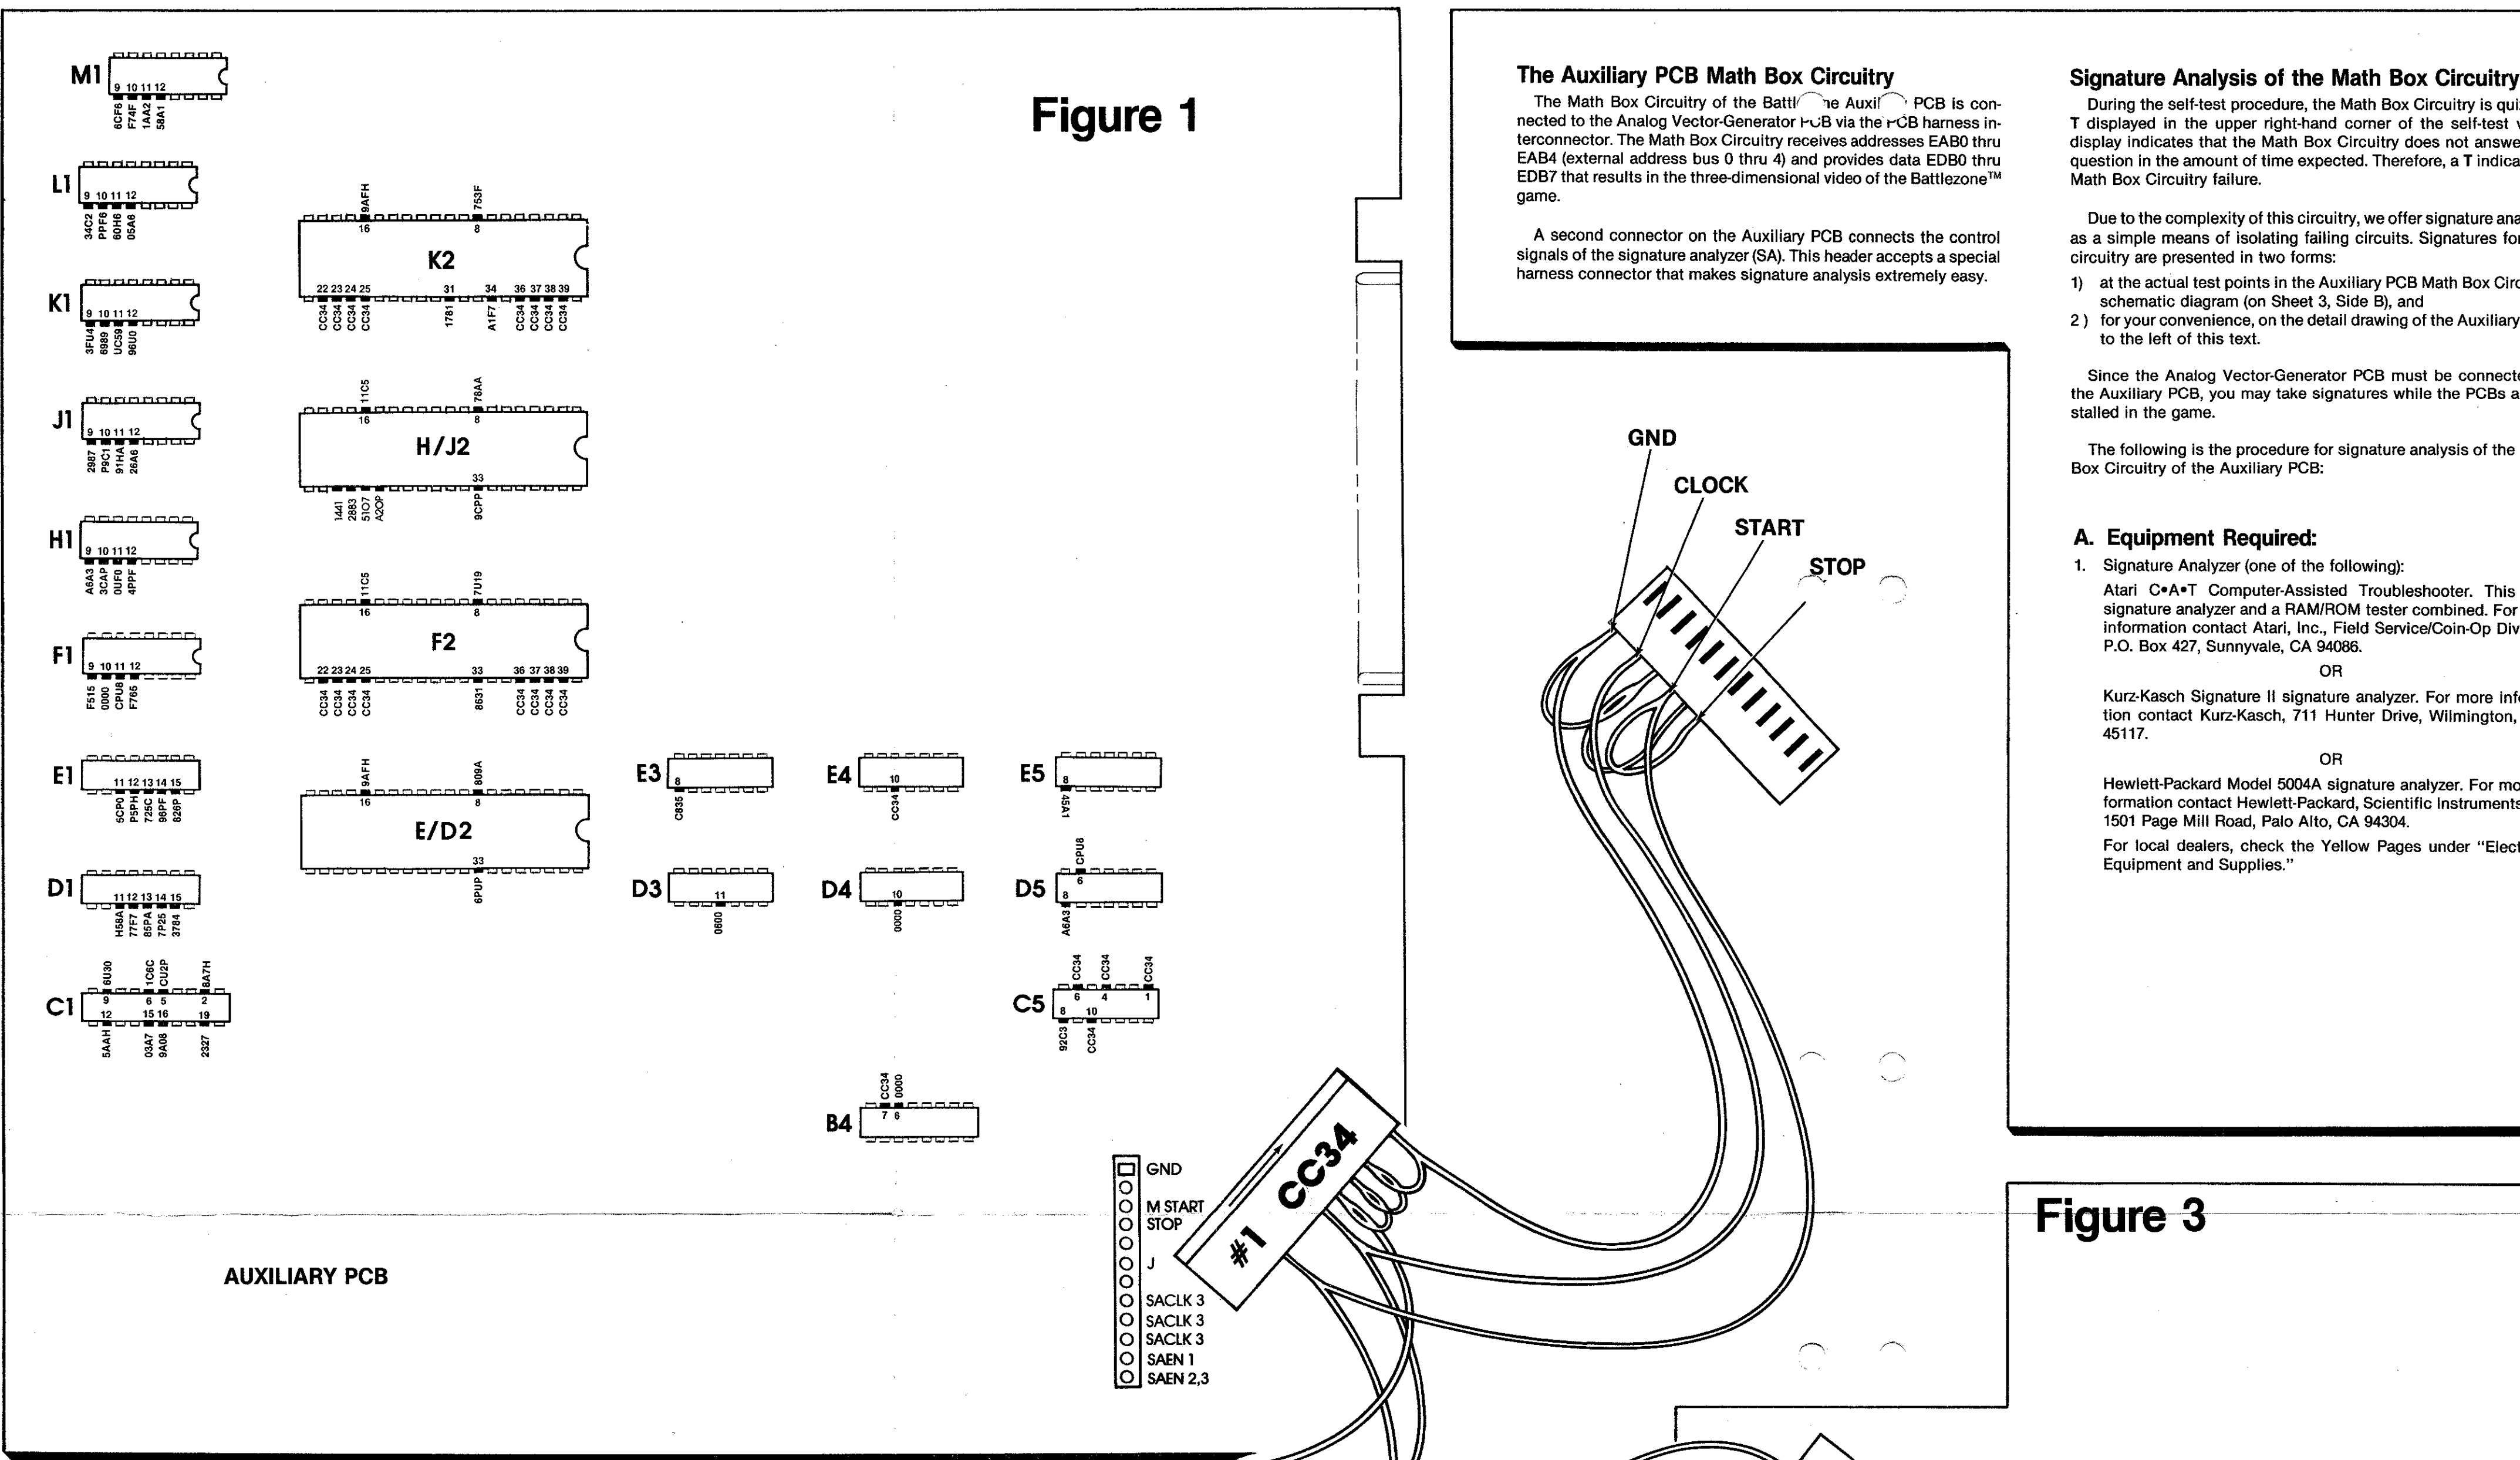

Figure 1
6. Probe for signatures as shown in Figure 1 to the left. If all signatures are correct, continue with D. Signature Analysis Test #2A Procedure. If any signatures are incorrect, probe for signature of CC34 on +5V test point. If not CC34, remove jumper from pin 1 of IC B6. Return to B. Signature Analysis Setup Procedure and once again do step 3. If +5V is CC34, refer to G. Isolating a Failing Circuit.